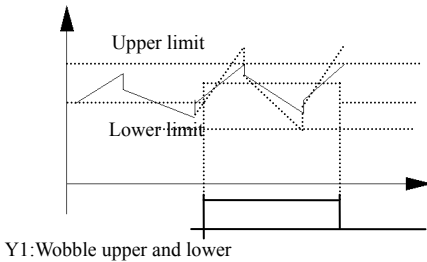

Fig.7-22 Wobble amplitude limit
20. Frequency inverter Low voltage lock-up signal (LU). When the frequency inverter is running, the DC bus voltage below the limit level, output indication signal.
28. Wobble upper and lower limit. If the frequency fluctuation range calculated by center frequency exceeds the upper limit F01.11 or belows lower limit F01.12 after selecting the wobble function, it will output indication signal, as shown in Figure 7-22.